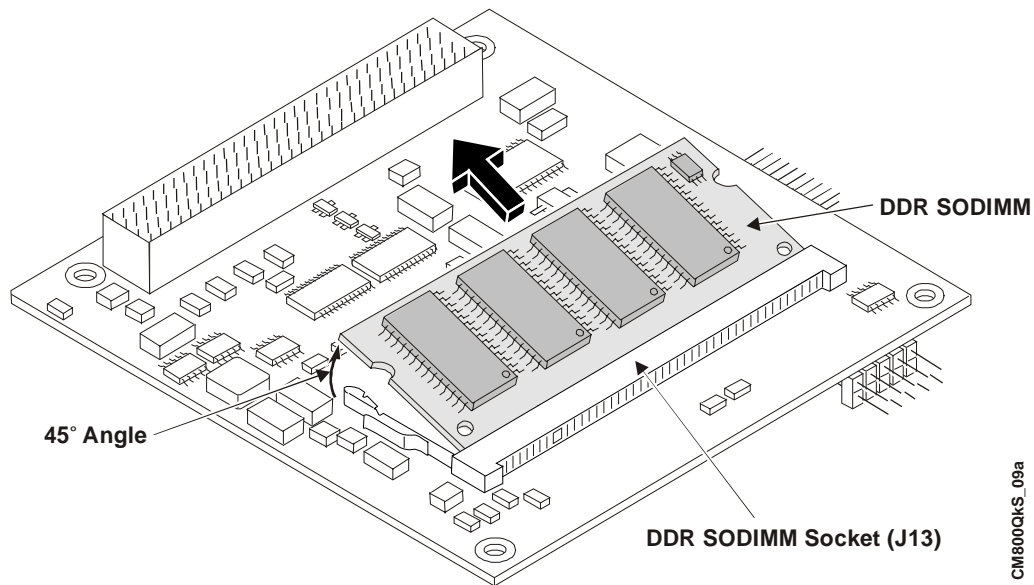

Figure 2-2. Removing SODIMM from Socket
The SODIMM will spring up to a 45° angle to the board once you open both retaining latches. If the SODIMM does not spring up to a 45° angle, then the retaining latches have not released the SODIMM from the socket. See Figure 2-2.
7. Using the card edges, lift the SODIMM completely away from the socket. See Figure 2-2.